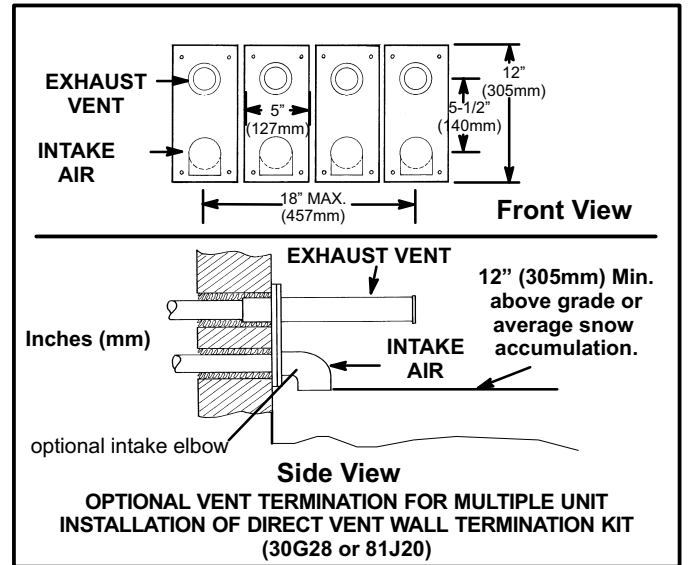

FIGURE 41
- A multiple furnace installation may use a group of up to four terminations assembled together horizontally, as shown in figure 41.